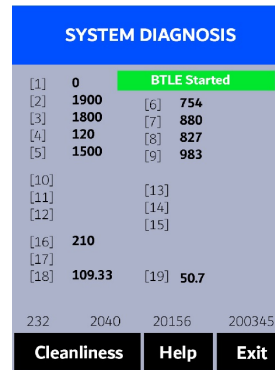

Figure 13.
Press **Diagnosis** (<) to launch the **SYSTEM DIAGNOSIS** screen where raw measurement data are displayed (Figure 13). The information has no use for normal operation, but instead is used for device troubleshooting. Provide an image of both the **DEVICE INFORMATION** screen and the **SYSTEM DIAGNOSIS** screen when you contact Pyxis ([service@pyxis-lab.com](mailto:service@pyxis-lab.com)) for troubleshooting your device or call +1 (866) 203-8397.
4. Allow 5–10 seconds for the message in the top-right corner of the display change from **Starting BTLE...** to **BTLE Started** (Figure 13).